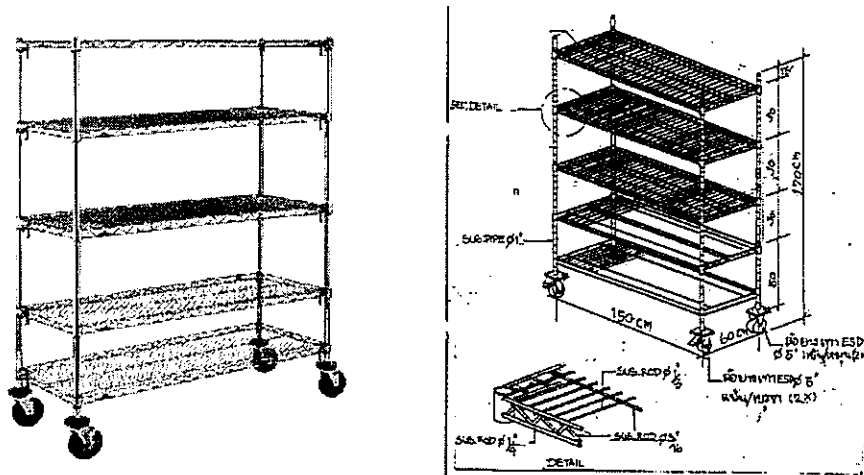

Figure 16: Example of Steel Mobile shelf*
- 5.2 ESD-Safe Steel mobile shelving system (5 tiers) with adjustable height with dimension more than or equal to 60 cm long x 150 cm wide x 170 cm high (example in Figure 16) (4 sets)